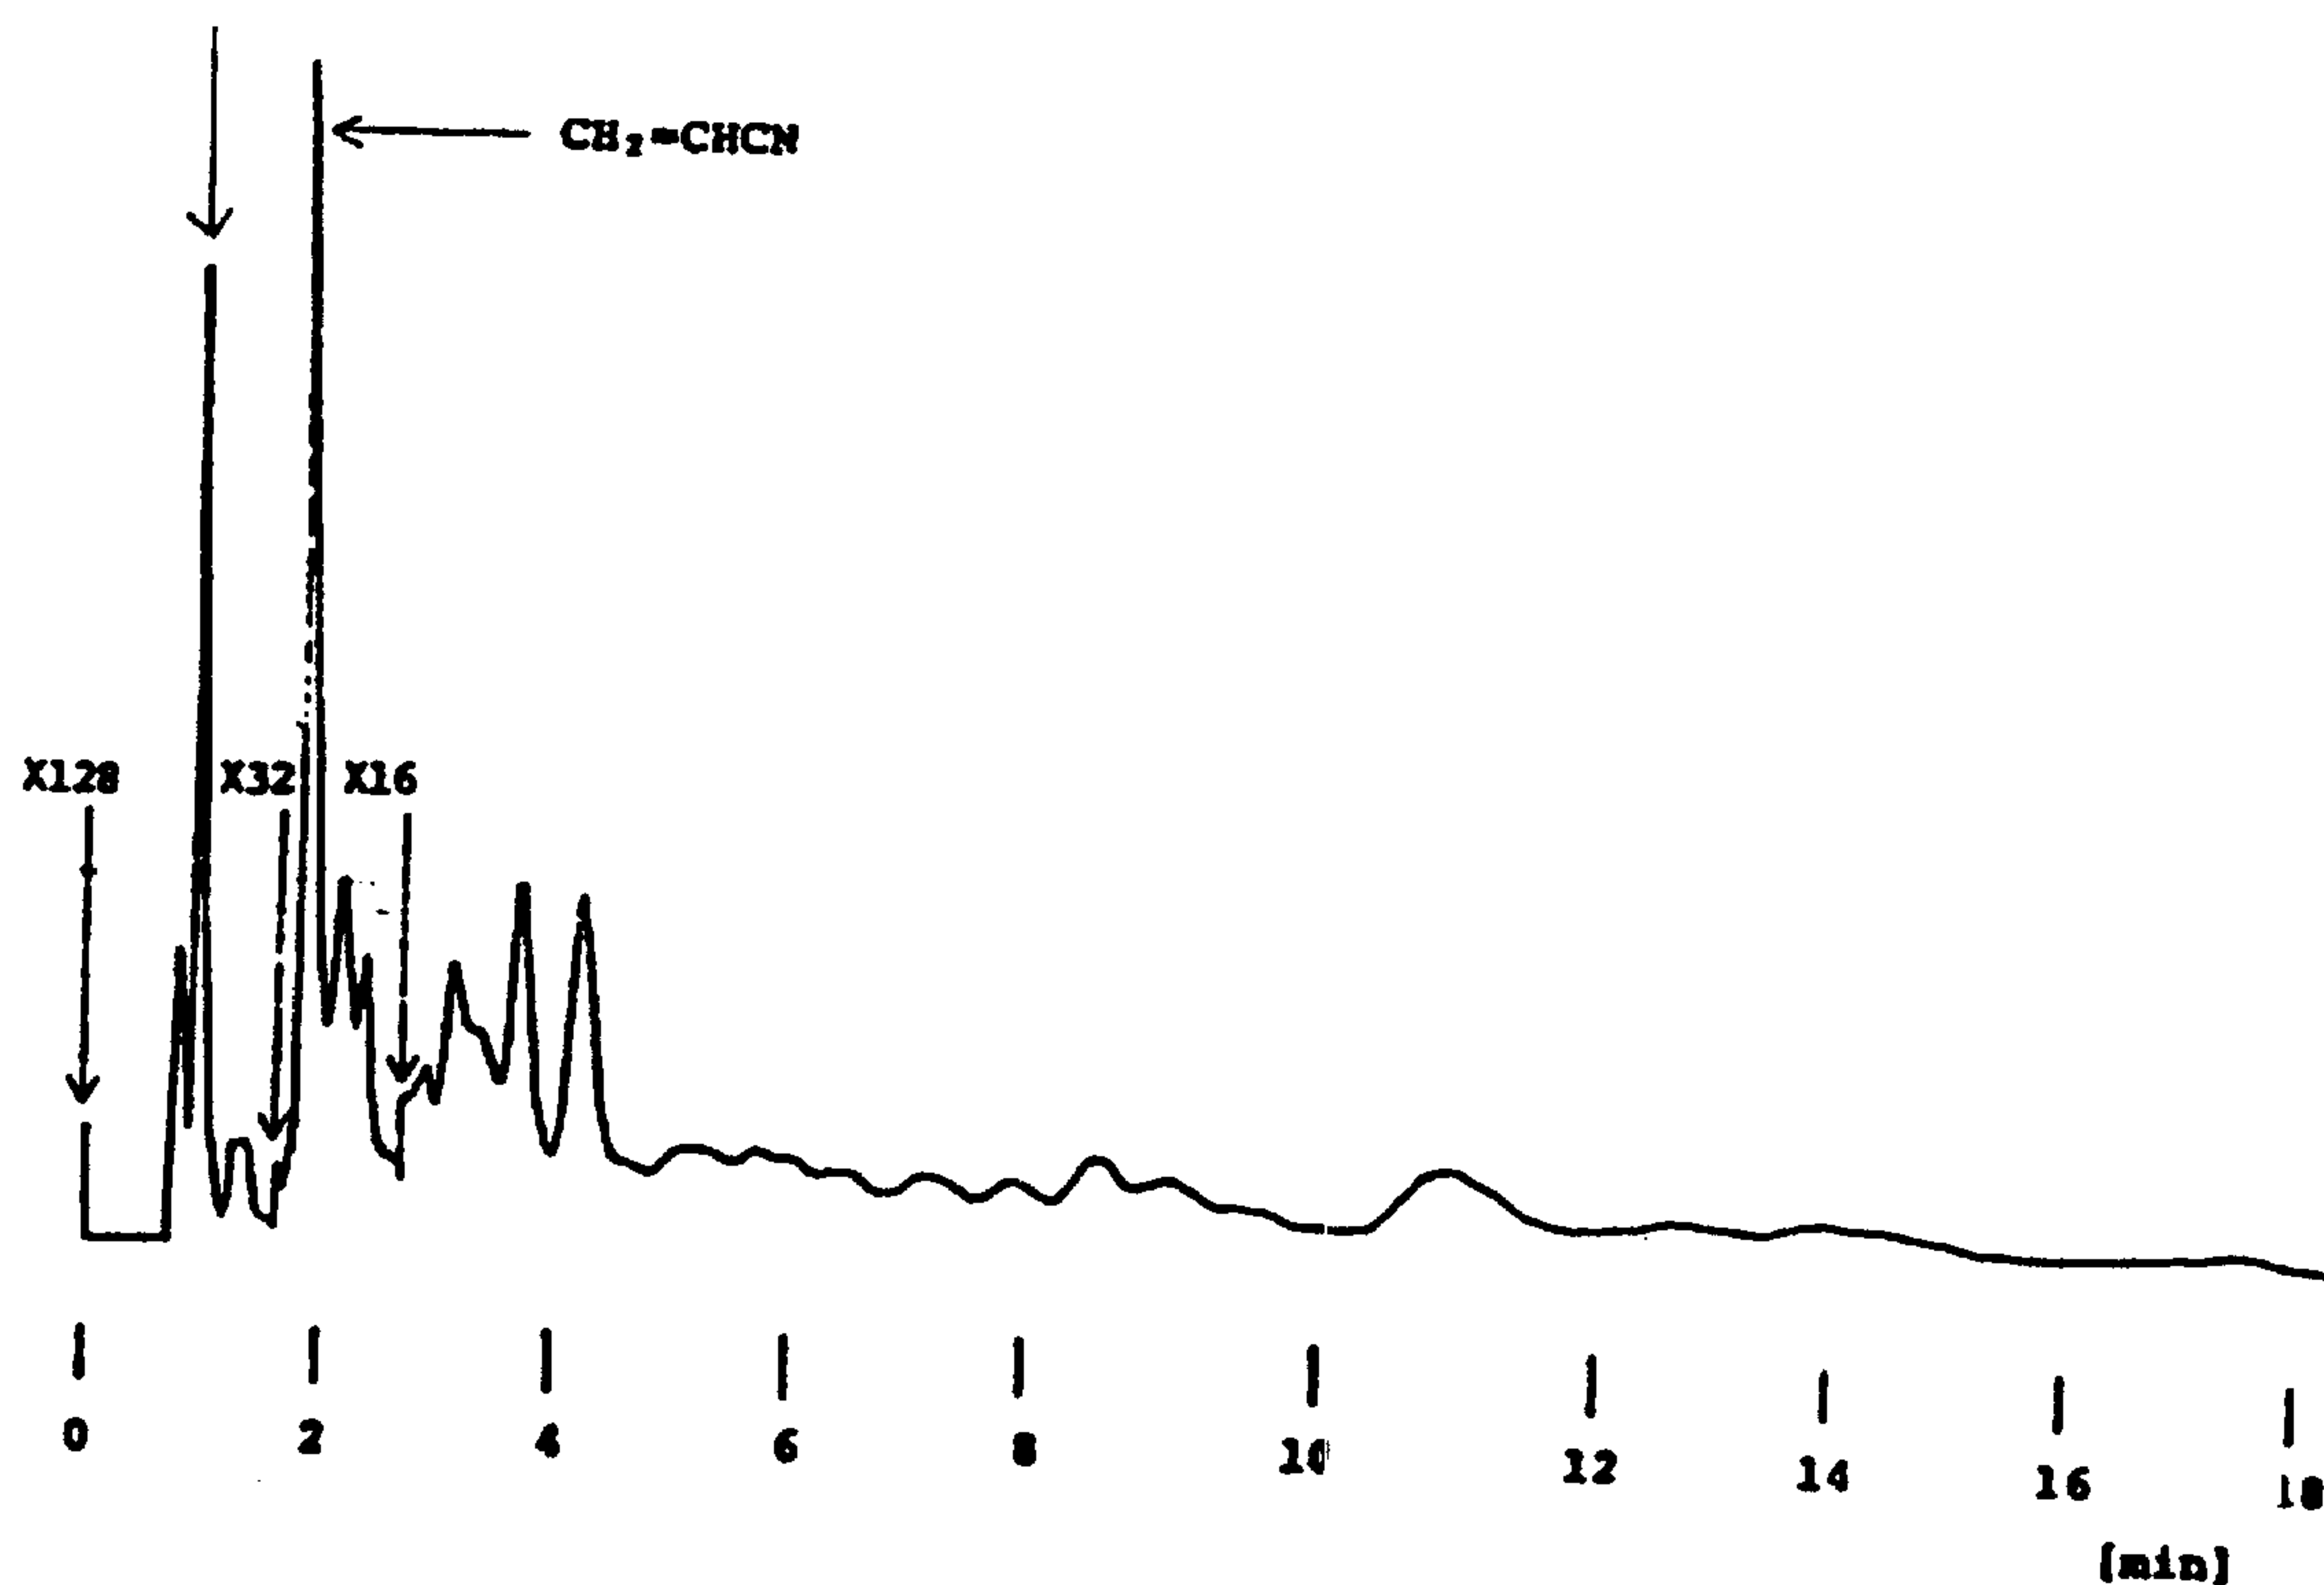

Figure 1. Chromatogram of Hycar 1042
(1) Obtain proper amount of specimen, put it in a pyrolysis rod, and pyrolysize at 590°C for 3 seconds.
(2) After the pyrolysis, immediately open a valve that inducts to the column, and start to run the device.
(3) If the device creates a chromatogram, compare with Figure 1, check whether it is same as the chromatogram for the hycar 1042, and report.